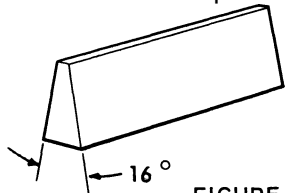

FIGURE 6
**Step 11.** Next, make a wedge shaped piece of wood to join the panels together at the center. The angle of the wedge, 16 degrees, determines the dihedral, which is 8 degrees for each panel. Fig. 6. If you're lucky, your dealer may have a piece of trailing edge stock, which fits the requirement.